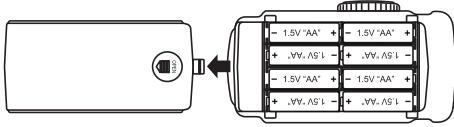

Figure 1
2. Remove the bottom cover of the remote controller and install fresh 8 x 'AA' Batteries (Alkaline recommended) into the bottom of the remote. (Figure 1)